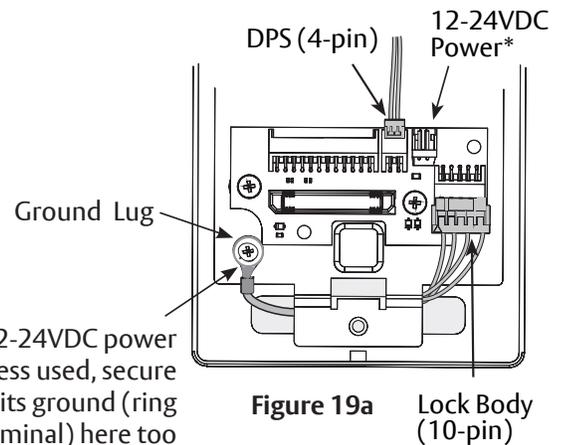

Figure 19a Lock Body (10-pin)
1. Secure the following connectors to their respective terminals (Figure 19a).